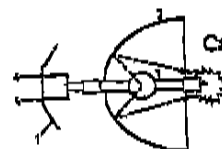

Fig. 5c
**CAUTION: DO NOT** get away too much the lamp from the reflecting mirror; the beam could concentrate on the upper part of the socket and cause an excessive overheating that will shorten the lamp life (fig. 5c)